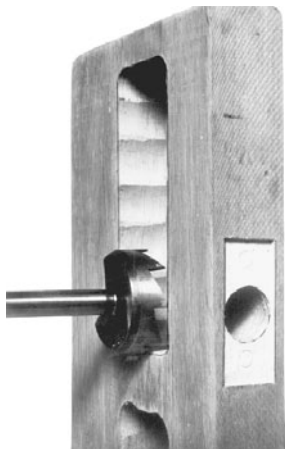

Figure 18.45 Preso-Matic installation template, 2 $\frac{3}{8}$ -inch backset.
1. Bore the opening for the lock and latch (Fig. 18.45) using the required template that comes with the unit (Figs. 18.46 and 18.47).